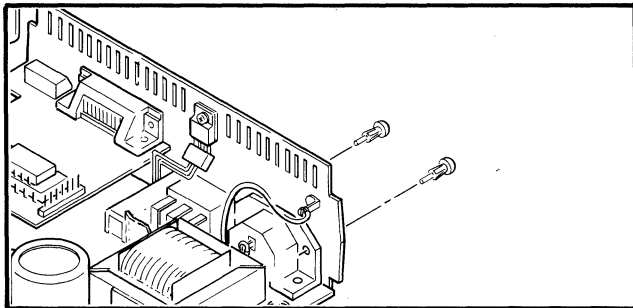

Figure 8-3. Rear Panel Disassembly
c. Remove Rear Panel. Remove the two nylon rivets, securing the LINE INPUT connector to the rear panel. These rivets can be removed using the tip of a solder aid tool, pressing in on the inside end of the center post within the fastener, until it pops out. Replace it by installing rivet, then pressing the center post in with a flat-bladed screwdriver until flush. Remove the three-wire cable assembly connecting rear panel mounted voltage regulator U27 to the A1 Main Assembly. Remove the ground wire after desoldering it with a soldering iron. This should free the rear panel from the A1 Main Assembly. Be sure when reassembling, that the cable connector is positioned correctly. The cable wires should connect directly to the regulator as if no cable were there. When installed correctly, there should be no twist in the cable. See Figure 8-3.